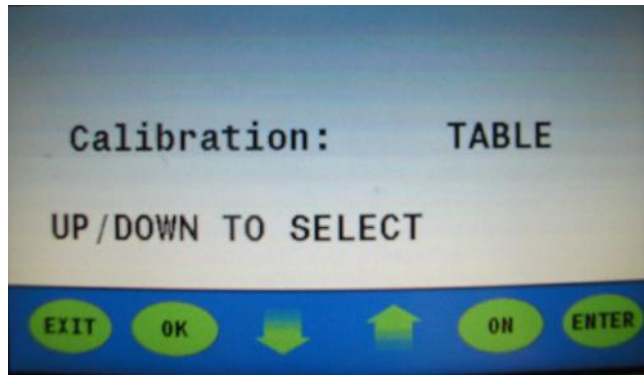

Figure 16
19. Press up or down arrow to select TABLE. **(Figure 16)**